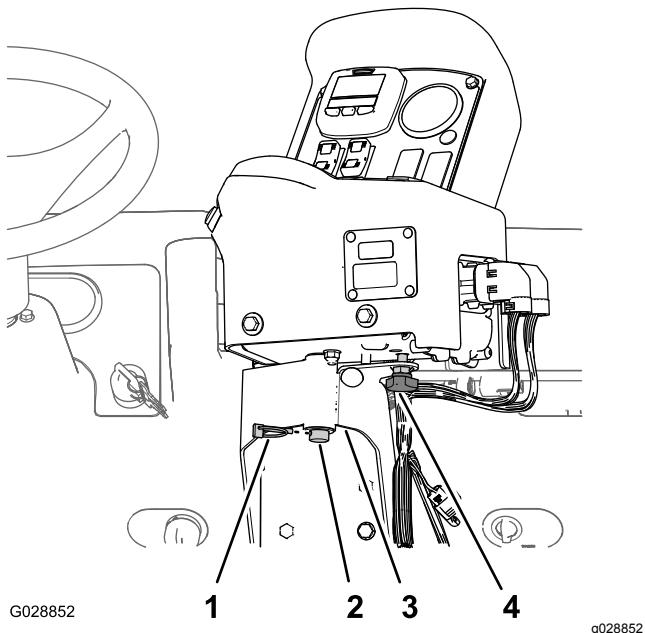

Figure 18
2. Install the control console onto the control mounting bracket and secure the control console with the previously removed hairpin (Figure 18).
3. Install the hand knob and tighten it to prevent the console from rotating during operation (Figure 18).